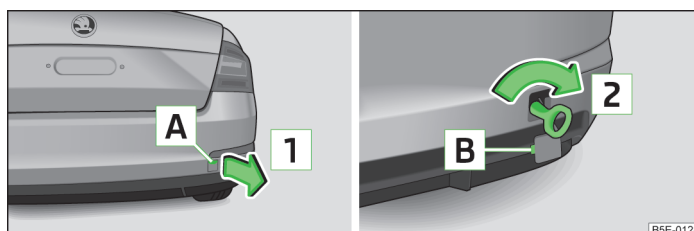

Fig. 198 Rear bumper: Removing the cap/installing the towing eye
- Press on the cap in the area **A** » Fig. 198.
- Manually screw in the towing eye in the direction of the arrow **2** » Fig. 198 until it stops » **i**.